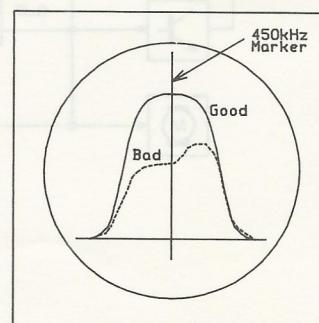

Fig. 4
- (c) When the waveform of the oscilloscope (Fig.4) is confirmed, heighten the input sensitivity of oscilloscope as possible, and lower the output of sweep generator. (At this moment, if the waveform seems to be under the influence of external radio wave, change the receiving frequency of the receiver until the influence is minimized. And then perform IF adjustment).